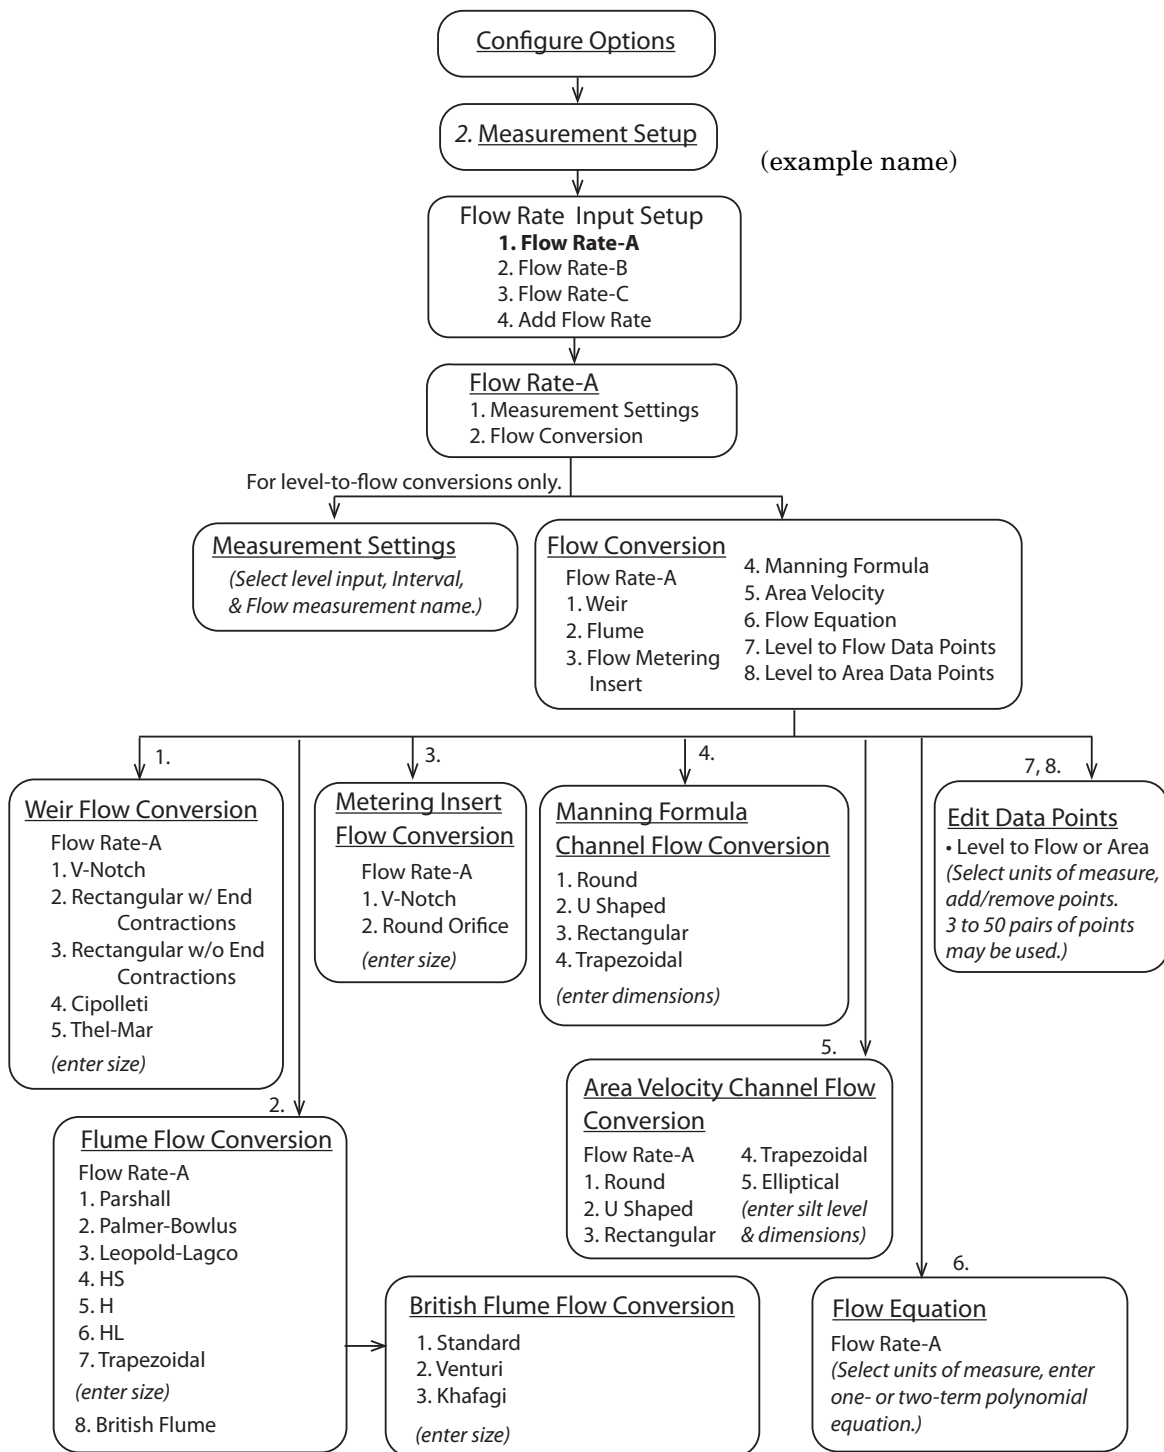

Figure 2-14 Menu Tree: Flow rate input setup
**Flow Rate Input Setup** – Measurement settings and flow conversion are programmed for the flow rate(s) from this menu (refer to Figure 2-14 on the following page). If more than one flow rate data set is being calculated, these settings are programmed separately for each one.